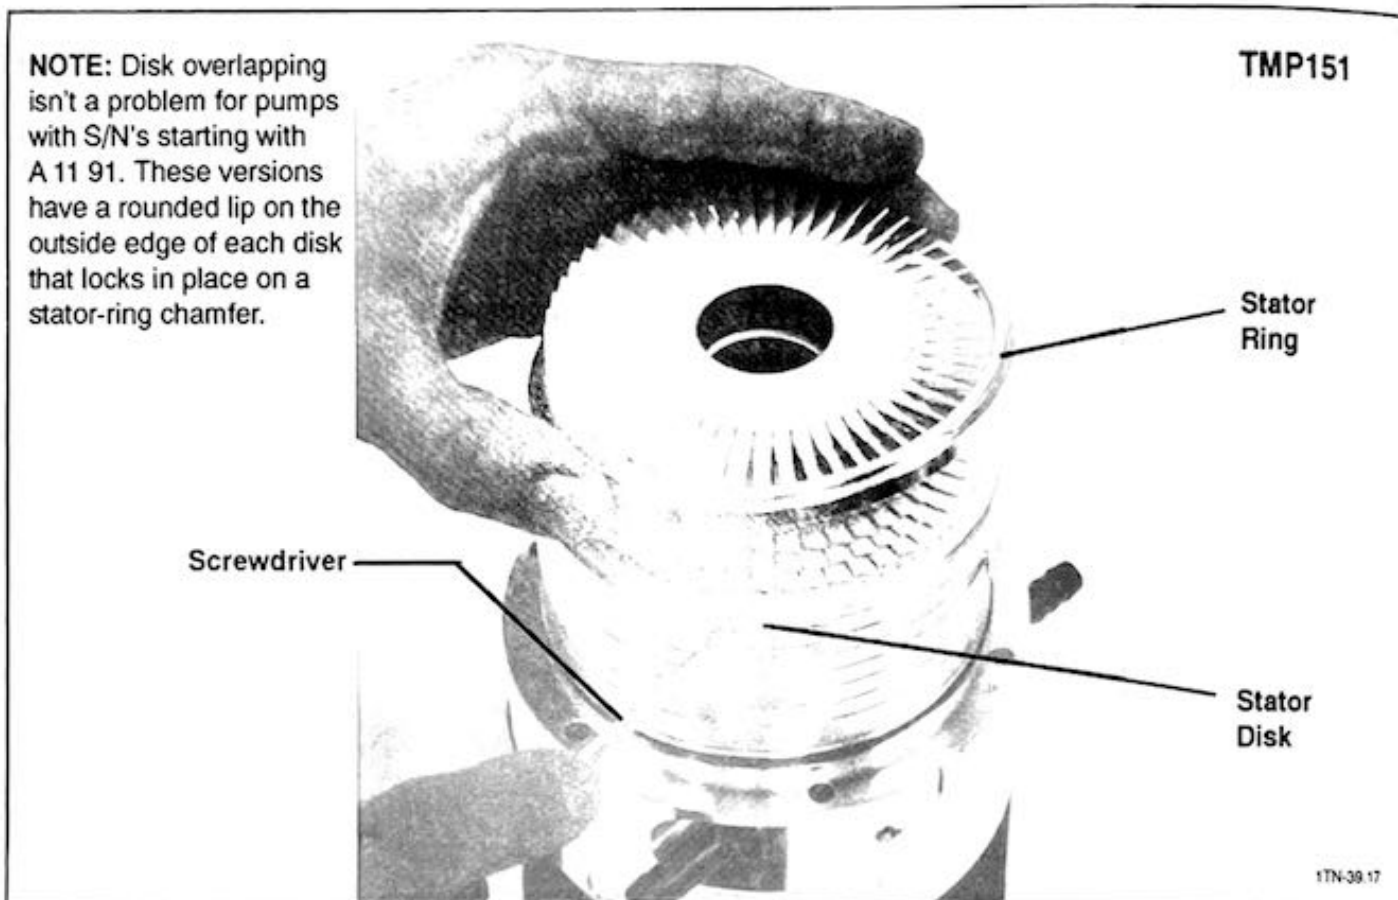

Figure 4-4. Using a Screwdriver to Prevent the Stator-Disk Halves from Overlapping as You Install the Stator Ring
- 2) Use a small screwdriver as shown in Figure 4-4 to keep the other abutting ends of stator disks from overlapping until you snap the ring down in place.